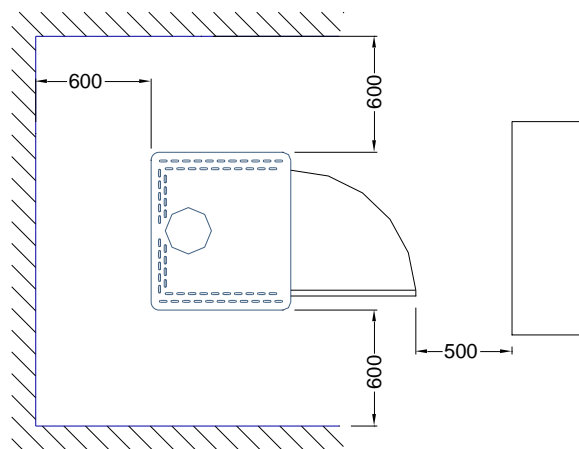

Fig 21
2. Remove the Oven and Fireplace doors by simply moving them upwards. Fig. 21
2. Remove the Oven and Fireplace doors by simply moving them upwards. See Fig. 21